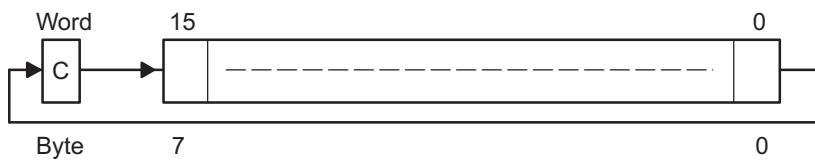

Figure 3-18. Destination Operand - Carry Right Shift
Description	The destination operand is shifted right one position as shown in Figure 3-18 . The carry bit (C) is shifted into the MSB, the LSB is shifted into the carry bit (C).